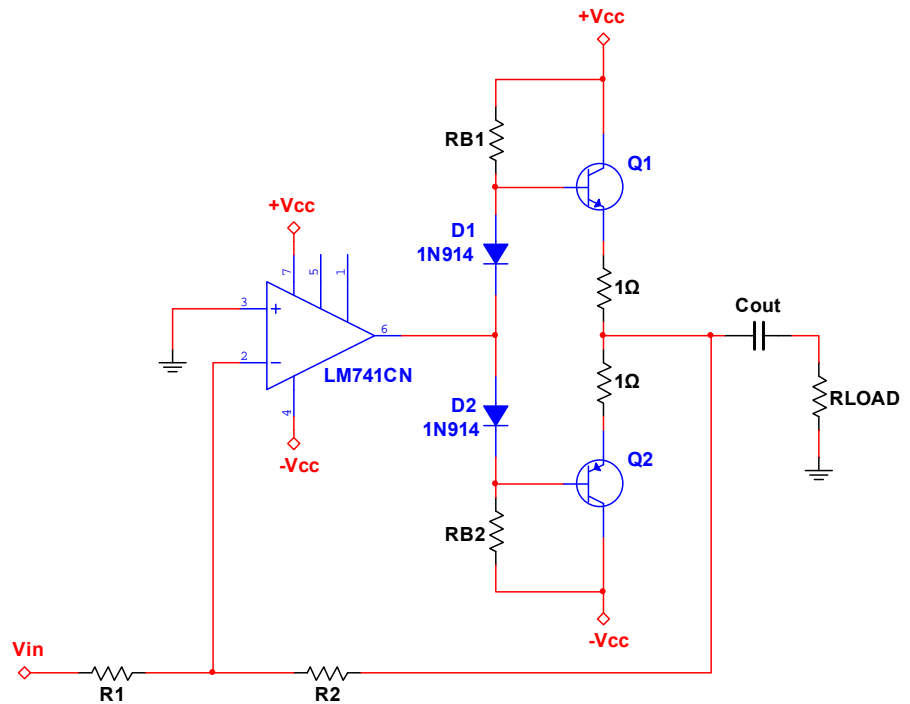

Fig. 2: Inverting amplifier with Class AB output stage. Remember that $G = -R2/R1$ for an inverting amplifier!
- 2) Design an audio amplifier based on an op amp and Class AB stage (see Fig. 2). The design requirements are the following: